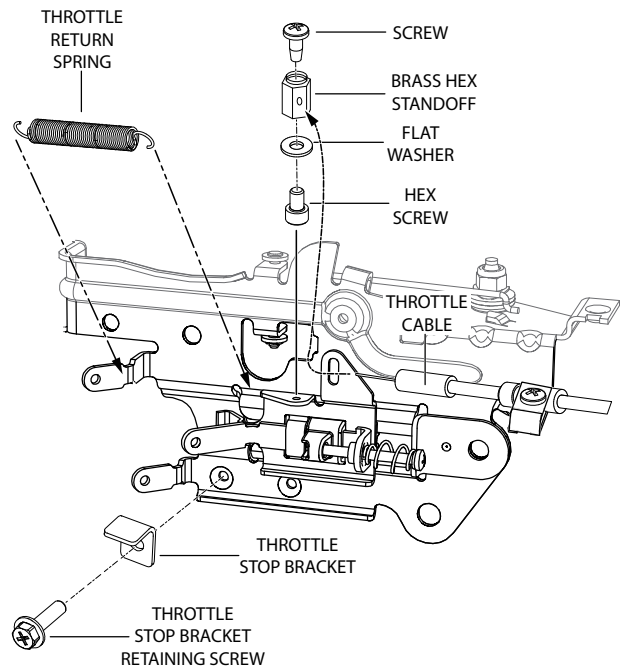

Figure 9. Throttle Stop Bracket
- Using a 1/4" drive ratchet, 6-inch extension and a 8 mm socket, loosen the throttle stop bracket retaining screw (Figure 9) enough to allow the slide body bracket to be removed. **DO NOT** remove retaining screw.